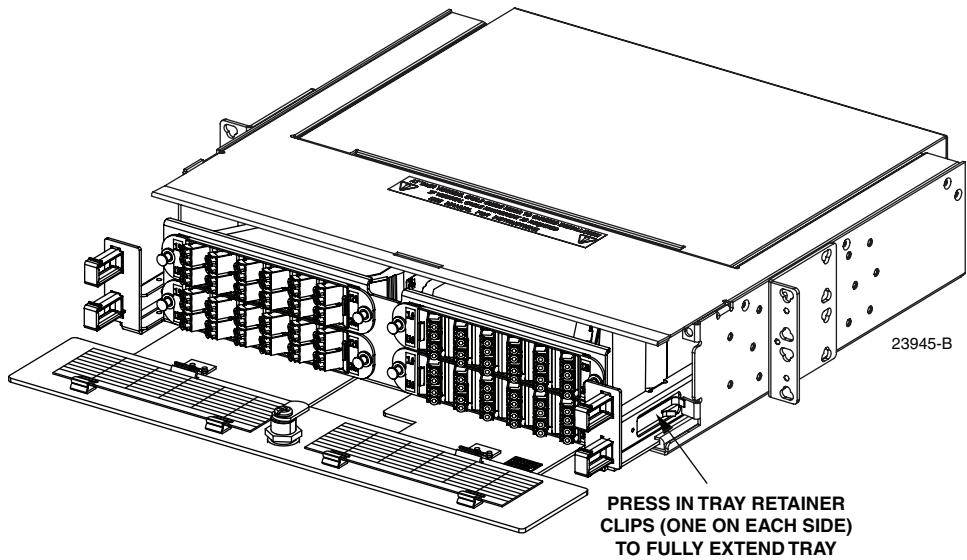

Figure 8. Freeing Drawer to Slide It Out Fully
2. To free the drawer to open it fully, press in the retainer clips (one on each side) located as shown in Figure 8. Slide the drawer out until it locks into place.